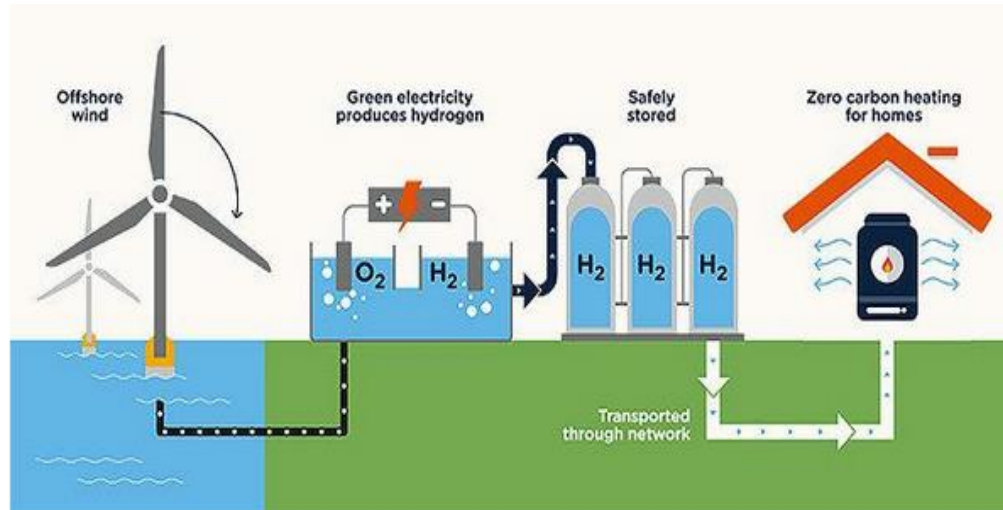

Figure 6. Hydrogen Energy Storage
- **Production:** Hydrogen is produced through processes like electrolysis (splitting water into hydrogen and oxygen using electricity) or steam methane reforming (SMR, reacting methane with steam to produce hydrogen and carbon dioxide) (Figure 6).